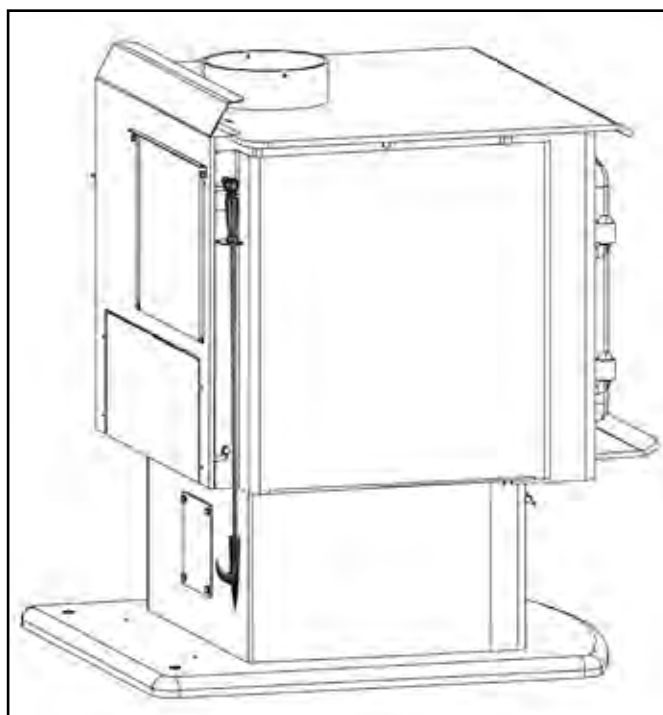

Figure 58: Fireplace poker hanging.
4. Remove the screw, using a  $\frac{5}{16}$ " socket or wrench, that goes down through the firebox top into a bent over tab at the top of the shroud (see A in Figure 58).
5. To remove the shrouds, loosen the two (2) torx T-20 screws that hold the shroud to the unit (See B in Figure 58). Pull the shroud forward past the T-20 screws (approximately  $\frac{3}{4}$ " [2cm]), then out to the side.